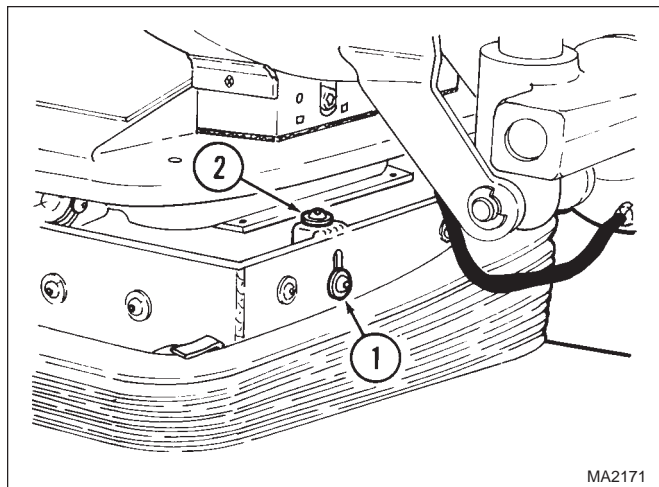

Figure 4-48. Leaf Chain Tension Adjustment
- (1) While pressing the Emergency COMPUTER CONTROL OVERRIDE SWITCH, press the TABLE DOWN button until the base function reaches the end of its travel.
- (2) Lower bellows assembly (Refer to para 4-3).
- (3) Loosen screw (1, Figure 4-48).
- (4) Place a 100 - 200 lb (45 - 91 kg) weight on the table top or get an assistant weighing this amount to sit on the table top.
- (5) Loosen screw (2) and then coat threads of screw with removeable threadlocking adhesive (Loctite 242).
- (6) Tighten screw (2) until screw becomes hard to turn. Do not overtighten.
- (7) Tighten screw (1).